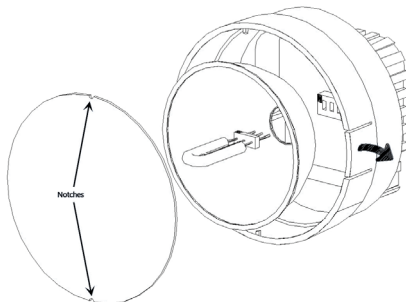

Figure 4 Lamp Replacement
Refer to Figure 4 Lamp Replacement.
3. Using a lint-free cloth, insert the new lamp by gently rocking the lamp while pushing it into place (see Figure 4). Make sure the lamp is in straight and centered in the reflector hole.
4. Reinstall the reflector and then position the front lens in place matching up the notches on the lens with the two small tabs on the housing to prevent lens rotation (see Figure 4). Push the tabs on the front rim outward and press the lens into place.
The AC-powered stroboscope has a replaceable fuse inside the unit which may be accessed by removing the lens and reflector - refer to Figure 4. If the fuse needs to be replaced, replace only with a fuse of the same type and value: Fast Blow - 750 mA, 2AG.